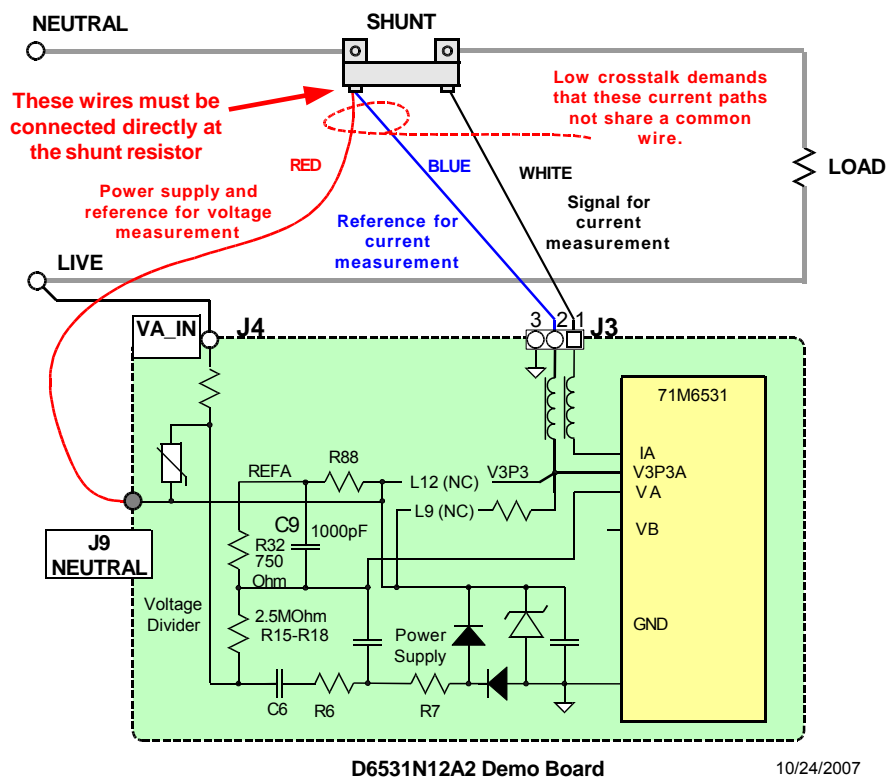

Figure 1-7: Connection of the Pre-Wired Shunt Resistor
- 3) Connect the shunt resistor wiring harness as shown in Figure 1-7.
The 71M6531 Demo Kits are shipped with a pre-wired shunt resistor (400μΩ), as shown in Figure 1-6. This shunt resistor has to be connected to the 71M6531 Demo Board, as shown in Figure 1-7.